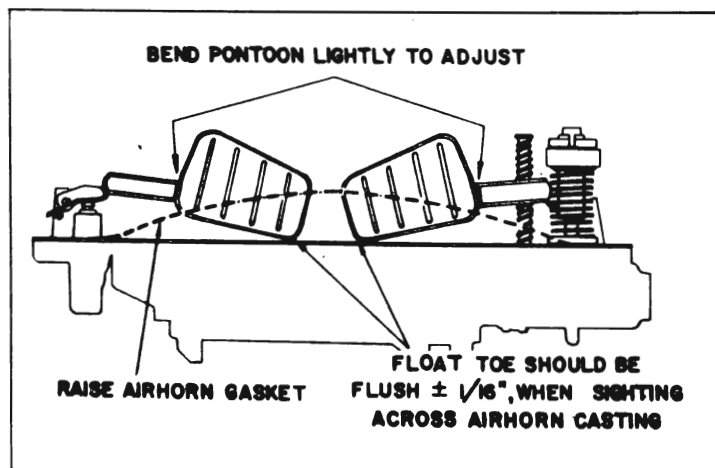

Figure 3-95—Float Toe Adjustment
18. *Adjust Float Toe.* After float level and alignment are correct; check float toe adjustment. With air horn still inverted, raise gasket and sight across flat surface of casting. Lower edge of each float pontoon at toe must be flush with this surface within  $\frac{1}{16}$ " either way. See figure 3-95. To adjust, grasp float pontoon and carefully bend arm close to float. **CAUTION:** After adjusting float toe, always recheck float level and alignment.